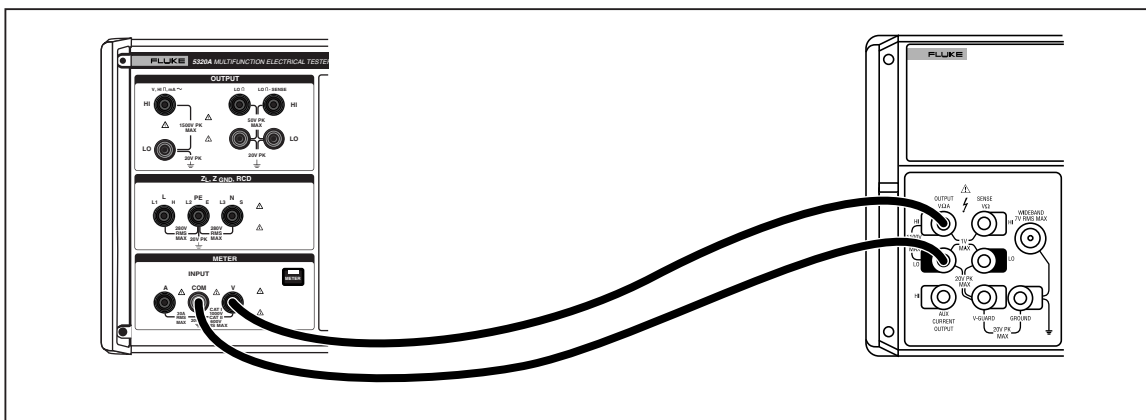

Figure 3-14. DC Multimeter Voltage Calibration Connections
1. Connect the multifunction calibrator to the Calibrator’s output terminals as shown in Figure 3-14.